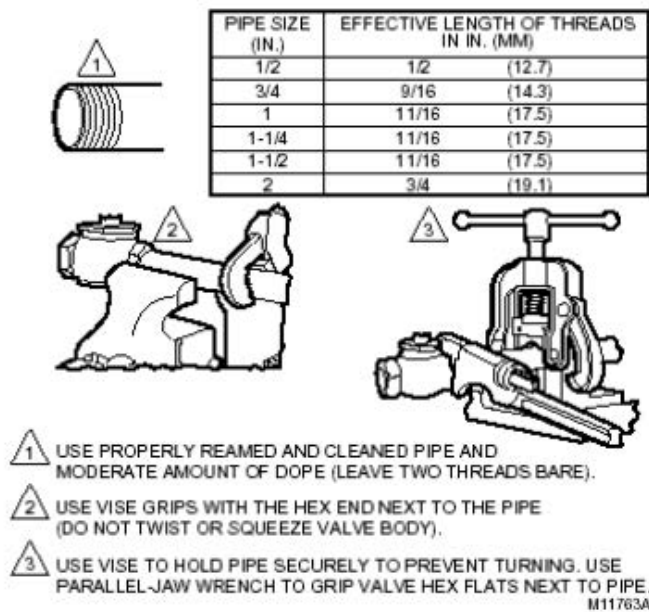

Fig 4 Installing Valves with threaded connections
6. Hold the valve body with a clamp or pipe wrench on the hexagonal fitting nearest the pipe to prevent damage to the valve body while mounting on the pipe. Refer to Fig. 4.
Refer to the table in Fig. 4 for valve pipe sizes and thread lengths. Fig. 4 also shows two effective methods of holding the valve and pipe when attaching it. Refer to installation information furnished with the linkage and motor when installing these controls.